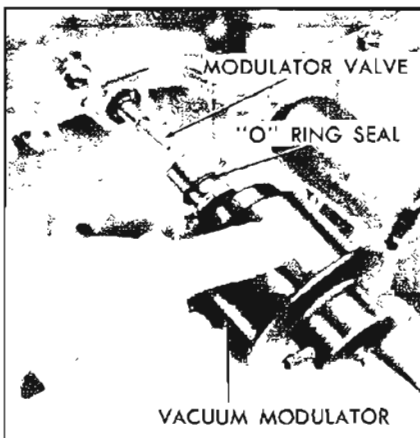

Figure 5-726
1. Install the modulator valve into the case, stem end out. See Figure 5-726.